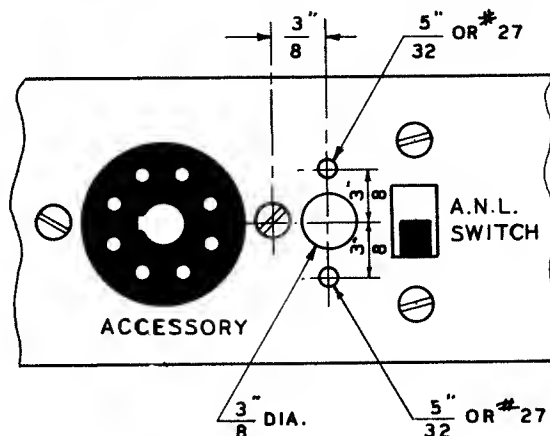

Figure 6
- () Remove the chassis from the cabinet and locate the A. N. L. switch and accessory socket on the rear apron of the chassis. Mount the phono socket between these two. Refer to Figure 6.
- () Refer to Page 11, Pictorial 3 in the AR-3 manual. Connect one lead of the 10 megohm resistor to CC4 (S).
Supplied with the CA-1 are two resistors, a 1 megohm (brown-black-green) and a 10 megohm (brown-black-blue). Just one of these resistors will be needed, depending on the AVC bias voltage developed in the particular receiver to be used. To determine what the AVC bias voltage is, tune the receiver to a signal (preferably a Conelrad key broadcast station which you intend to monitor). Now refer to Figure 6 and you will note that it is common practice to provide a high value of resistance between the detector and the first stage supplied with AVC voltage. This resistor prevents loading of the detector circuit and is marked isolation resistor on the schematic. Also on the schematic there is a point marked (A) which is the point to measure the AVC bias.
For those sets where the phono socket is mounted to the chassis connect one end of the resistor selected to the center conductor of the phono socket and solder. Connect the other end to the AVC line (point "A" in Figure 6) and solder.